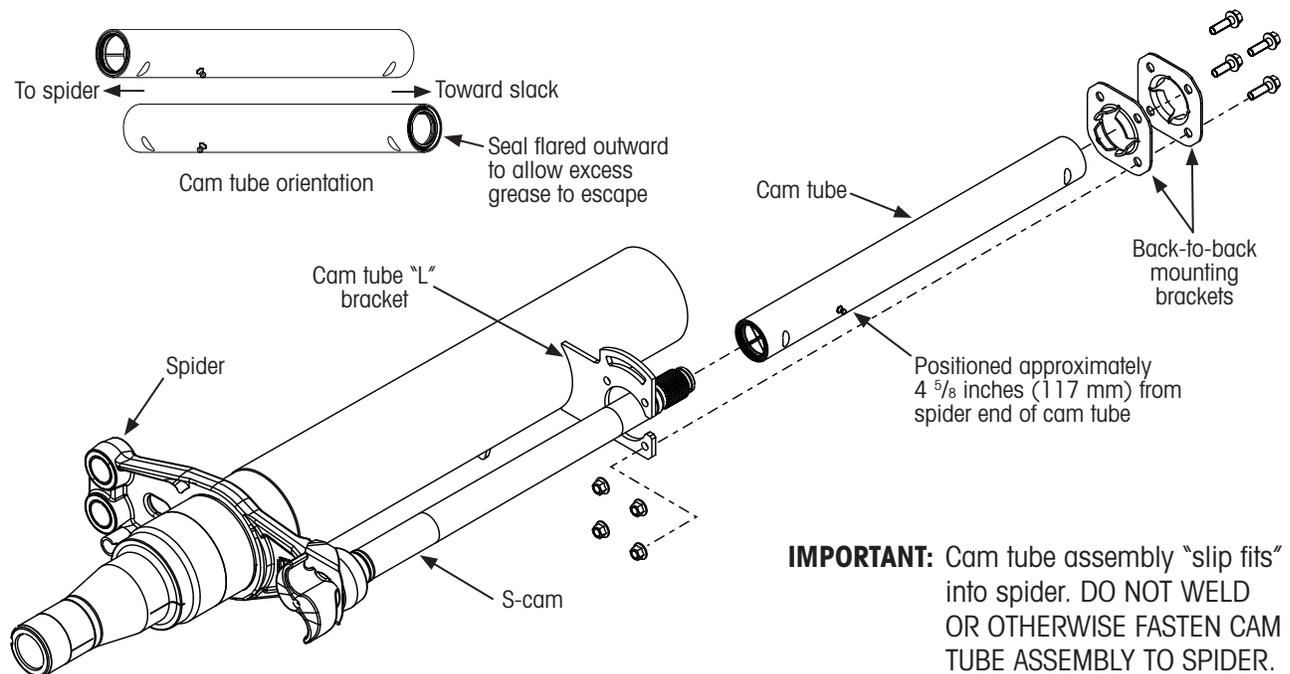

Figure 1: Cam tube assembly installation overview
This procedure is for cam tube service kits with clamp-mount (back-to-back) bracket on TRLAXLE™ axle models as shown in Figure 1 and Figure 3. The back-to-back clamps are bolted to the Cam L Leg Bracket.
- Orient the end of the cam tube as shown in Figure 1. The cam tube seals face the same direction. Ensure end with flat side of seal showing is inserted into the spider bore.
- From the inboard side of the Cam tube "L" bracket, slide the new cam tube assembly onto the S-cam, through the mounting hole and into the spider bore (Figure 1 and Figure 4).